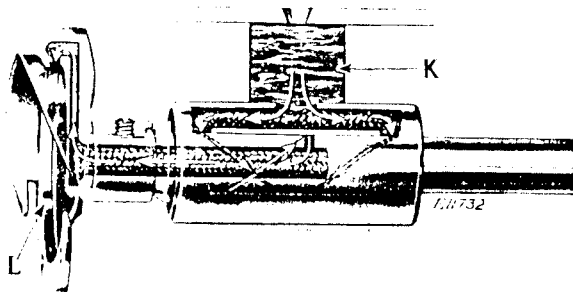

Fig. 3. X-ray View of Hook Lubricating System
Before starting the machine, fill the oil reservoir (K, Fig. 3) through the oil hole in the bed of the machine. This reservoir lubricates the front hook shaft bearing and sewing hook raceway through the oiling system shown in Fig. 3.
When starting a new machine, it is advisable each morning, for about a week, to apply a few drops of oil directly to the hook raceway (L, Fig. 3). ALWAYS KEEP A SUPPLY OF OIL IN THE RESERVOIR (K).